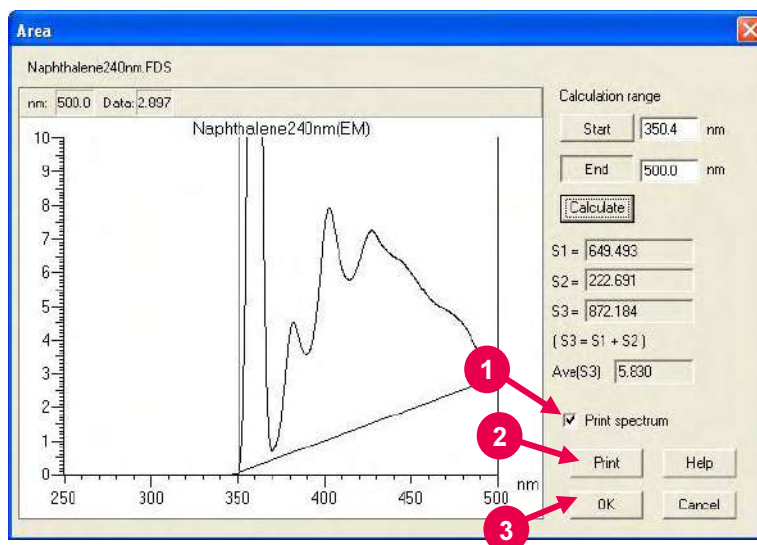

Fig. 7-35
- (1) To print a spectrum and the result of area calculation, put a check mark at "Print spectrum." (Refer to ① in Fig. 7-35.) To avoid printing a spectrum, remove the check mark.
- (2) Click **Print** to start printing. (Refer to ② in Fig. 7-35.) Upon execution of printing, the Area window will close.
(3) Upon clicking the **OK** button after calculation (refer to ③ in Fig. 7-35), its result is saved although the Area window is closed.
(4) The result of calculation is reset by clicking the  (reset) button on the Processing toolbar with the data processing window displayed. Upon calling up the Area window again, therefore, "*****" will be indicated in each result box.